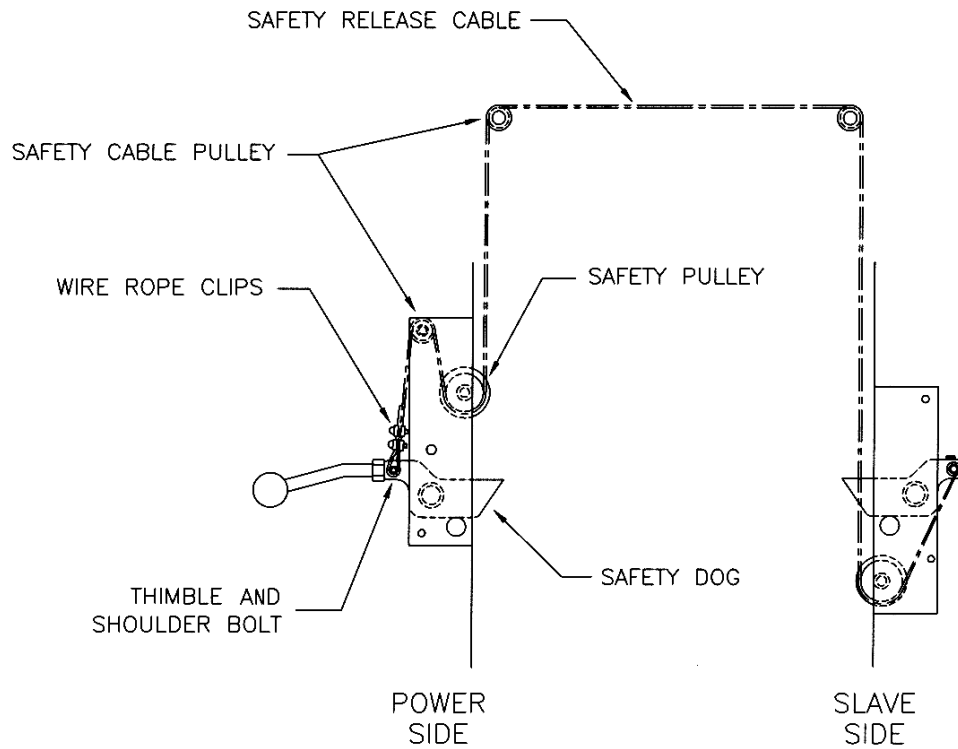

Figure 9 – Safety Cable Release Routing and Adjustment
2. Refer to **Figure 9** for safety release cable routing. The end of the cable that has a collar attaches to the slave side tower. The free end is fixed to the power side tower using two (2) wire rope clips.
7. Guide the cable up under the large pulley and then over the small pulley towards the safety dog as shown in Figure 9. Wrap the cable around the thimble (attached to the safety dog with a 3/8" x 1 1/2" lg. shoulder bolt) and then clamp it using two (2) wire rope clips. Do not tighten fully at this stage.